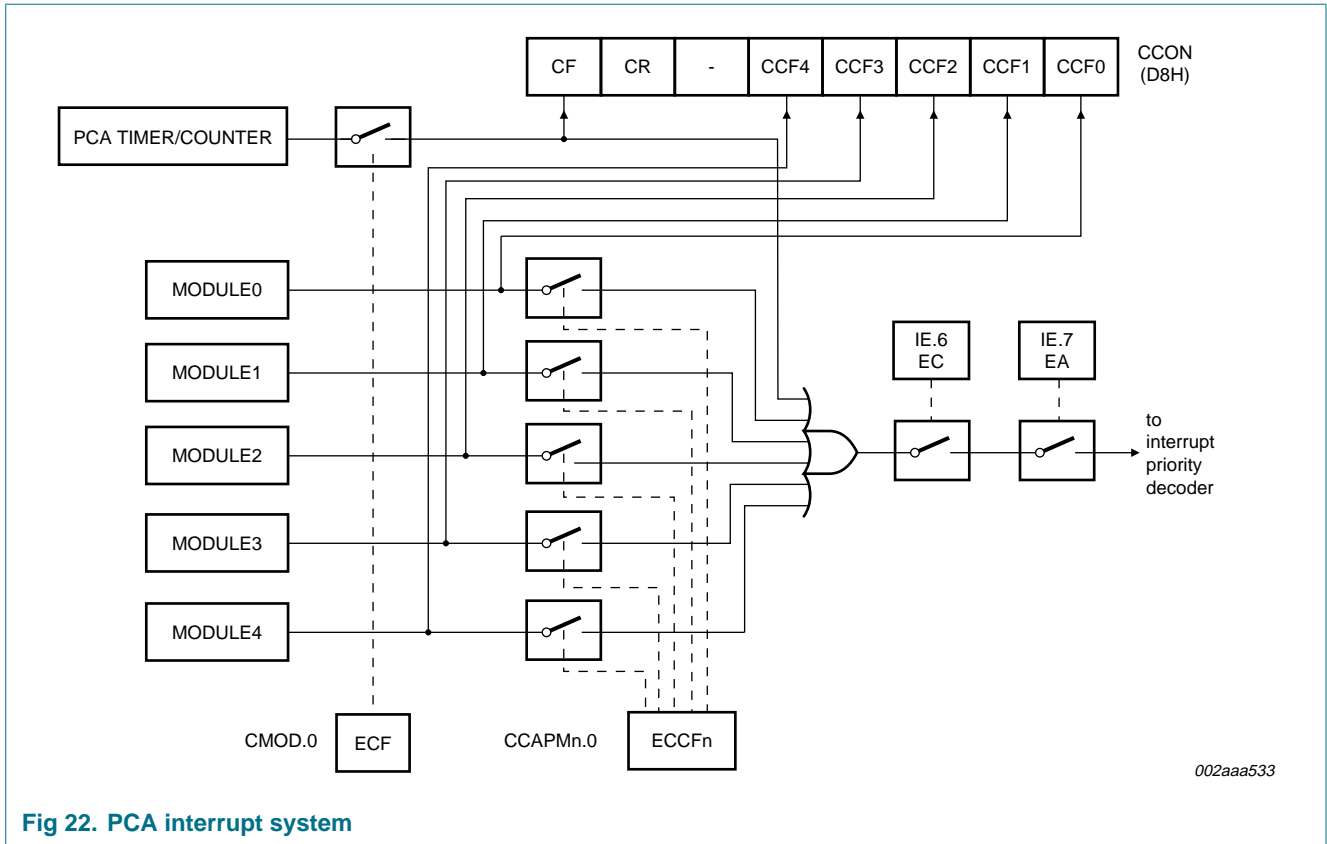

Fig 22. PCA interrupt system
The CCON SFR contains the run control bit for the PCA (CR) and the flags for the PCA timer (CF) and each module (CCF4:0). To run the PCA the CR bit (CCON.6) must be set by software. The PCA is shut off by clearing this bit. The CF bit (CCON.7) is set when the PCA counter overflows and an interrupt will be generated if the ECF bit in the CMOD register is set. The CF bit can only be cleared by software. Bits 0 through 4 of the CCON register are the flags for the modules (bit 0 for module 0, bit 1 for module 1, etc.) and are set by hardware when either a match or a capture occurs. These flags can only be cleared by software. All the modules share one interrupt vector. The PCA interrupt system is shown in Figure 22.
The ECCF bit (from CCAPMn.0 where n = 0, 1, 2, 3, or 4 depending on the module) enables the CCFn flag in the CCON SFR to generate an interrupt when a match or compare occurs in the associated module (see Figure 22).